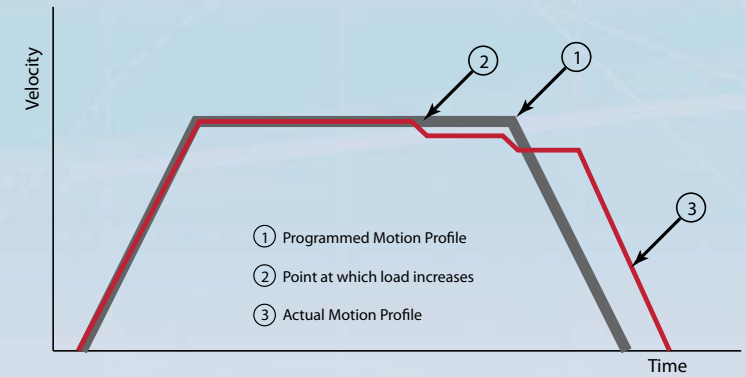

Figure 2: Diagram showing the Stall Prevention process
**Stall Prevention** automatically adjusts the excitation of the motor windings to maintain synchronization of the rotor and stator under all conditions. This means that motor position is maintained and corrected even when the required torque is too great for the motor. The stall prevention feature also performs position maintenance, which maintains the position of the motor shaft when at rest. See figure 2.